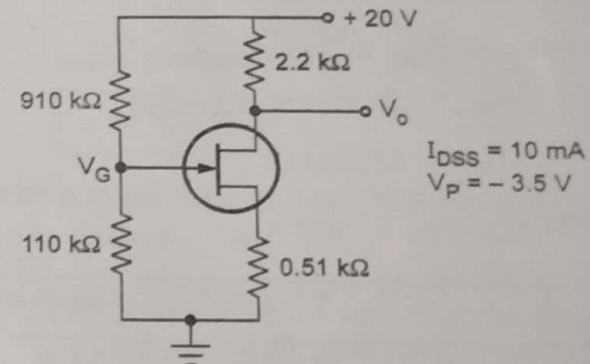

Fig. Q.26.1
Q.26 For the network shown in Fig. Q.26.1, determine I_D , V_{GS} , V_G , V_D , V_S and V_{DS} .